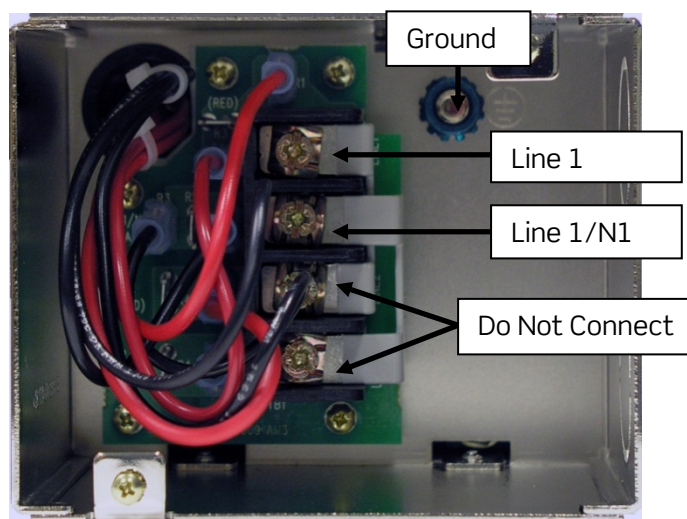

Figure 17 - AC Terminal Block Connections (Single Feed)
The single-feed AC option for 19" systems powers the bottom set of input terminals from the top set using a pair of bus bar straps (see Figure 17).
1. Connect the line/hot wire of the first feed to Line 1, labeled on the AC terminal block shown Figure 17.
1. Connect the line/hot of the first feed to Line 1, labeled on the AC terminal block shown Figure 17.